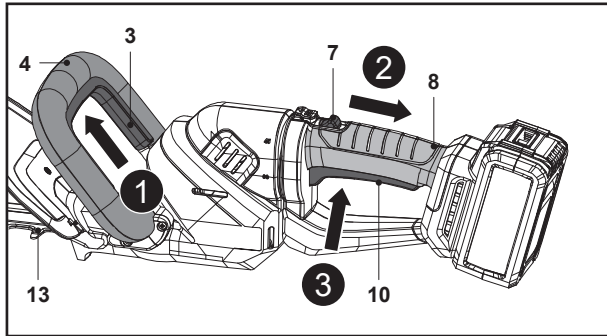

Fig. 6
1. Ensure the cutting device (blade) (13) does not touch any objects. Remove the blade cover (1) from the cutting device (blade) (13) before switching the product on.
2. Hold the product with one hand on the front handle (4) and the other hand on the rear handle (8).
3. Squeeze the safety switch (3) and hold it in position (Fig. 6, step 1).
4. Firstly pull back the lock-off button (7) to release it (Fig. 6, step 2), then squeeze the on/off switch (10) to switch the product on (Fig. 6, step 3).
5. Release either the on/off switch (10) or the safety switch (3) to switch the product off.